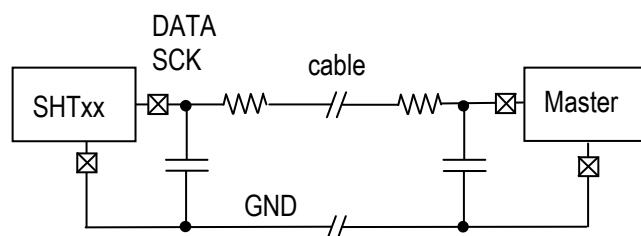

Figure 5 Reducing the slope of SCK of DATA line when using a long cable with the sensor.
- Reduce transmission frequency and slopes of the signals when using long cables. This is to reduce cross talk sensitivity, reflections and susceptibility against bursts. Slopes can be reduced by inserting a passive low pass filter, shown in Fig. 5. Best results may be achieved when using a low pass filter on either side of the cable connection.